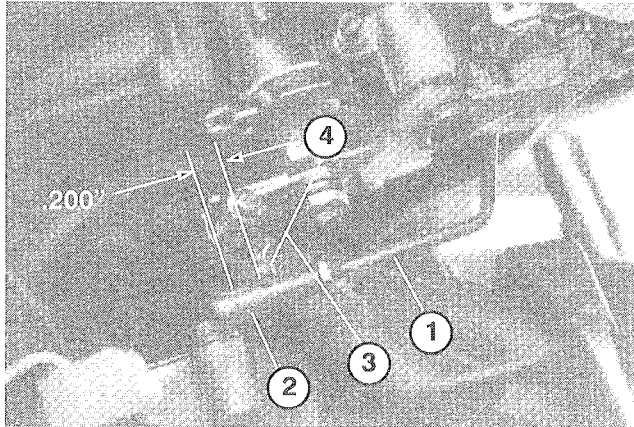

Figure 44
2. Rotate governor input lever clockwise to put a light tension load on the governor spring. Hold carburetor throttle against wide open throttle stop and adjust the ball joint on throttle rod to allow the ball joint socket to travel past the carburetor throttle stud by .200" ±.031" (Fig. 44). Tighten locknuts on throttle rod. Ball joints must move freely through full travel.
5. While rotating governor input lever counterclockwise and holding the carburetor throttle against the low idle stop, adjust the surge screw to allow the ball joint socket to travel past the carburetor throttle stud by .200" ±.031", in opposite direction shown in figure 44.